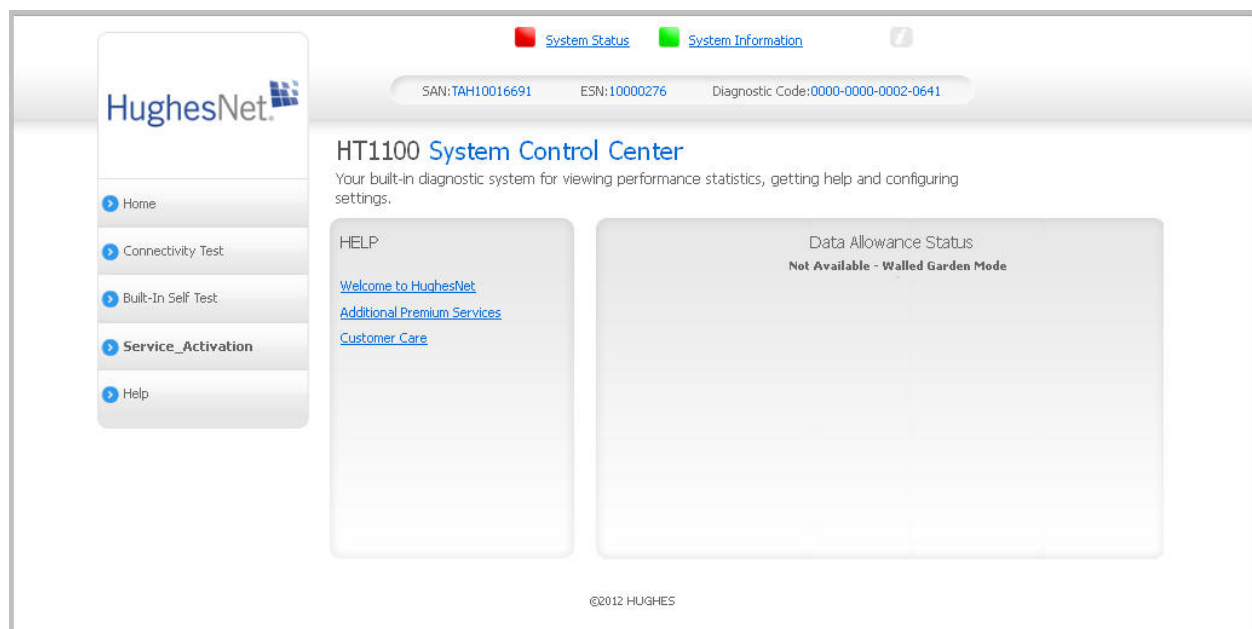

Figure 36: System Control Center home page
- Click the Home link on the side panel. The System Control home page appears as shown in Figure 36.
2. Click the Service Activation link as shown in Figure 36.